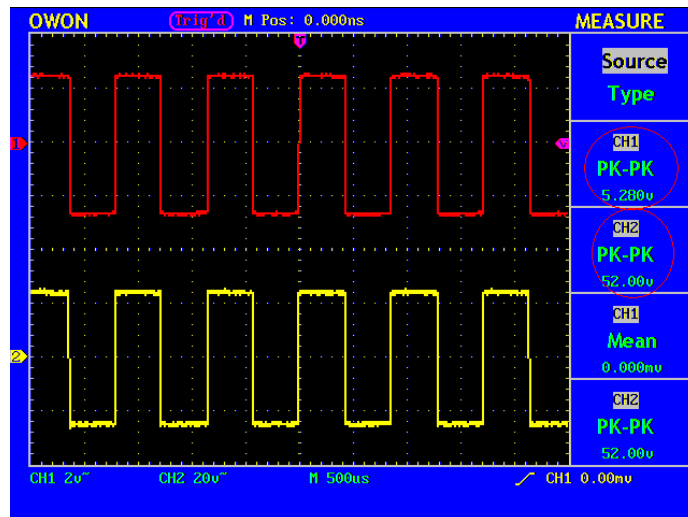

Fig.65 Wave Form of Gain Measurement
9. Get **Pk-Pk** readings of Channel 1 and Channel 2. (see Fig.65).